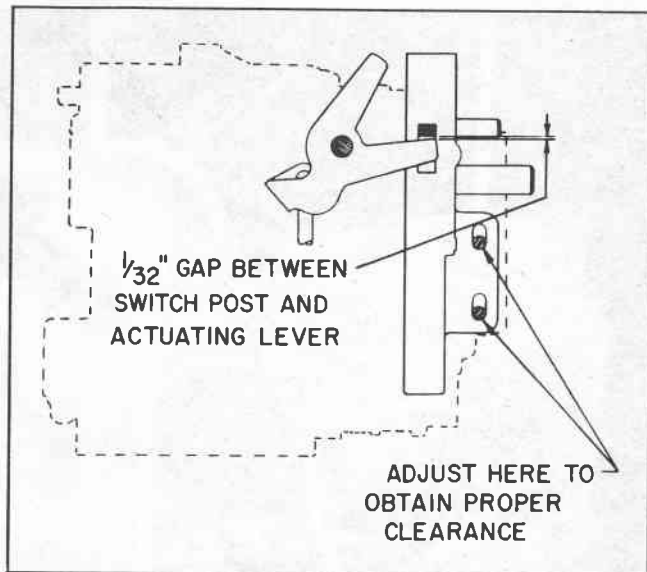

Fig. 6 Vacuum Switch Adjustment
4. Position switch on bracket to obtain a $1/32''$ clearance between bottom of lip and top surface of lower finger of pump lever (Fig. 6).